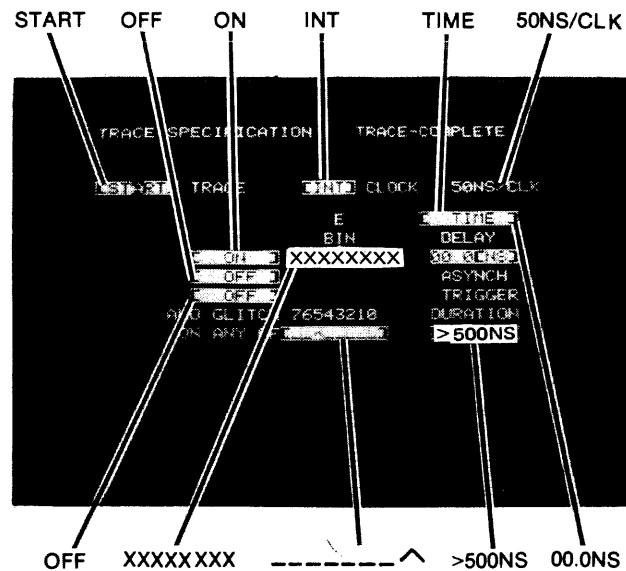

Figure 4-10. Asynchronous Tests Trace Specification Menu
- g. Use CURSOR keys to move cursor to each field in menu. Set up menu according to figure 4-10.